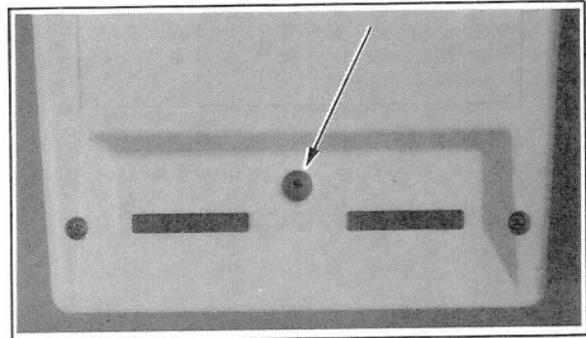

Figure 3-2. Battery Voltage Access Hole.
c. Insert the V - Ω test probe into the access hole as shown in Figure 3-2.